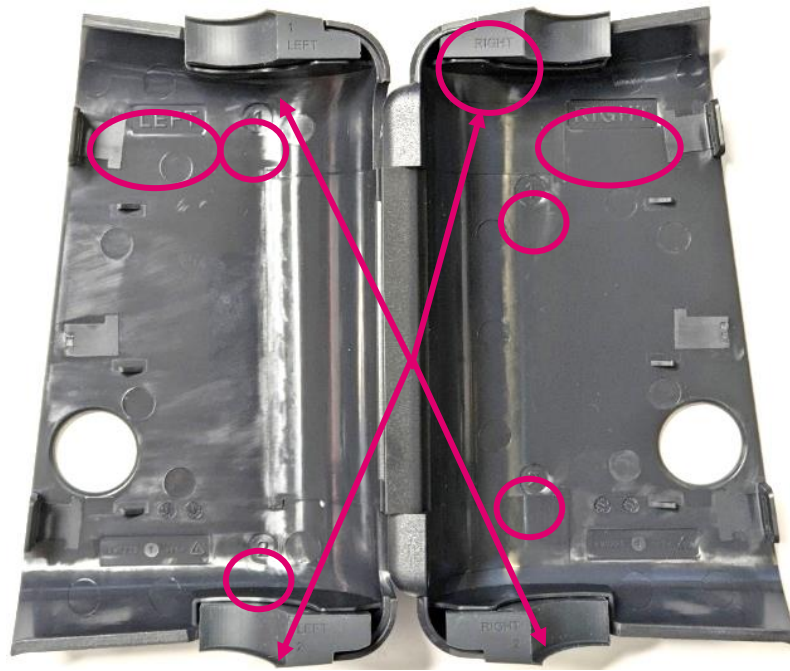

Figure 21: Seals Position on External Cover
2. Remove the external cover by lifting the 4 clips. Do not lose the 4 seals (Figure 21) in the external cover.